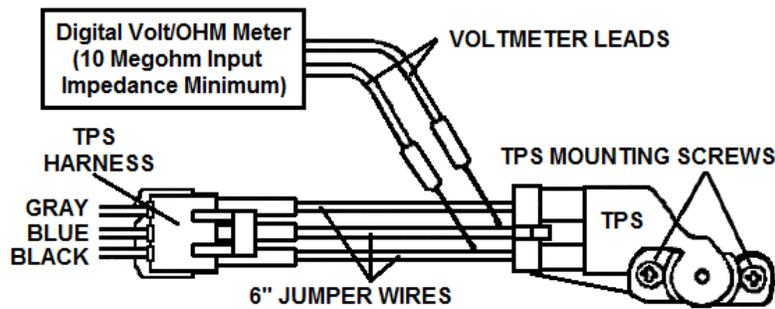

Figure 5
- Measure TPS signal wire voltage and verify that it is between .5 and 1.0 volts (see **Figure 5**).